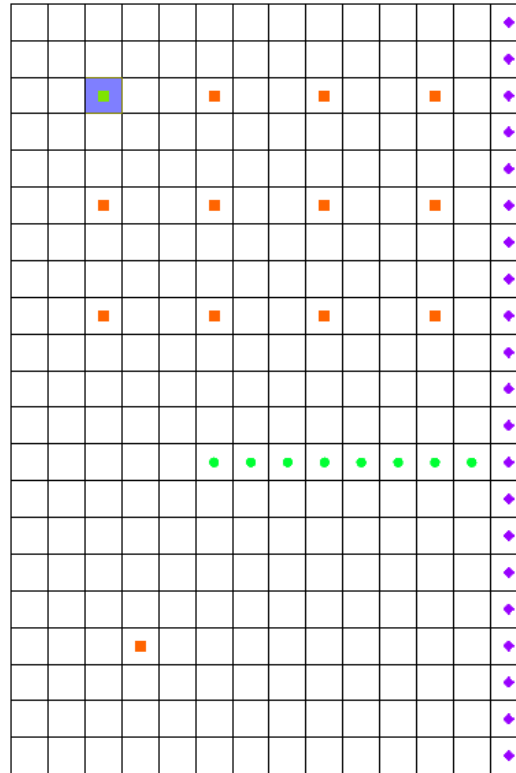

Figure 4 Selected MNW well cell (IJK: 3,3,1,)
2. Using the **Select Cells**  tool, select the 3D grid cell highlighted in Figure 4.
1. If necessary, re-select the grid cell selected in Figure 4 (Cell ID: 31).